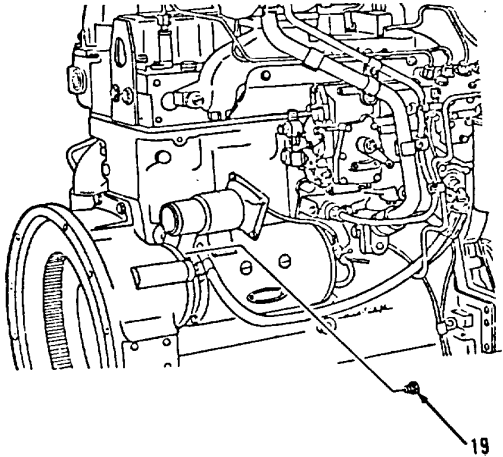

Figure 3-30.
- 38. Install plug (19, Figure 3-30).